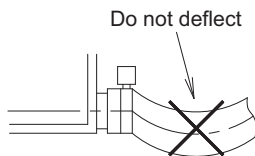

Fig. 26
- Do not deflect the drain hose (1) inside of the indoor unit. (Refer to Fig. 26) (It may cause abnormal noise such as bubbling noise.) (If the drain hose (1) is deflected, it may damage the suction grille.)